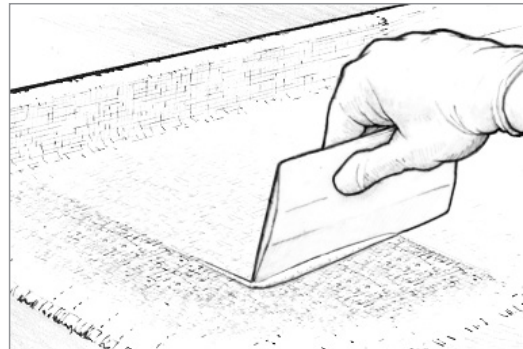

Figure 6-12 Squeegee away excess epoxy before the first batch begins to gel.
7. Squeegee away excess epoxy before the first batch begins to gel (Figure 6-12). Drag the spreader over the fabric, using even-pressured, overlapping strokes. Use enough pressure to remove excess epoxy that would allow the cloth to float off the surface, but not enough pressure to create dry spots. Excess epoxy appears as a shiny area, while a properly wet-out surface appears evenly transparent, with a smooth, cloth texture. Later coats of epoxy will fill the weave of the cloth.